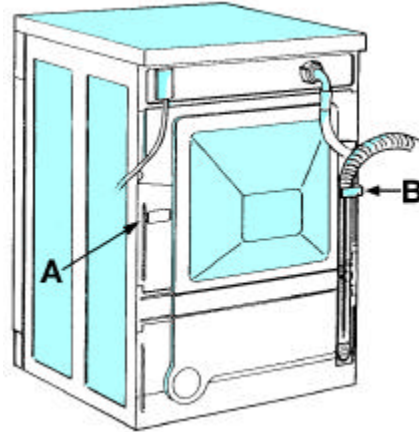

Fig. 1
1. Unhook the drain hose from the left clip, see arrow A in Fig. 1.
Do NOT loosen the right drain hose connection, see arrow B in Fig. 1, otherwise there is the risk of leakage (danger of scalding with hot water).